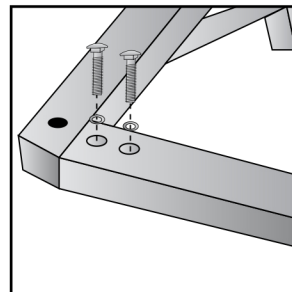

Figure 3
3. Insert bolts into aligned bolt holes, placing the washers between the frame and bolt. Tighten using the included Allen wrench. (Figure 3)